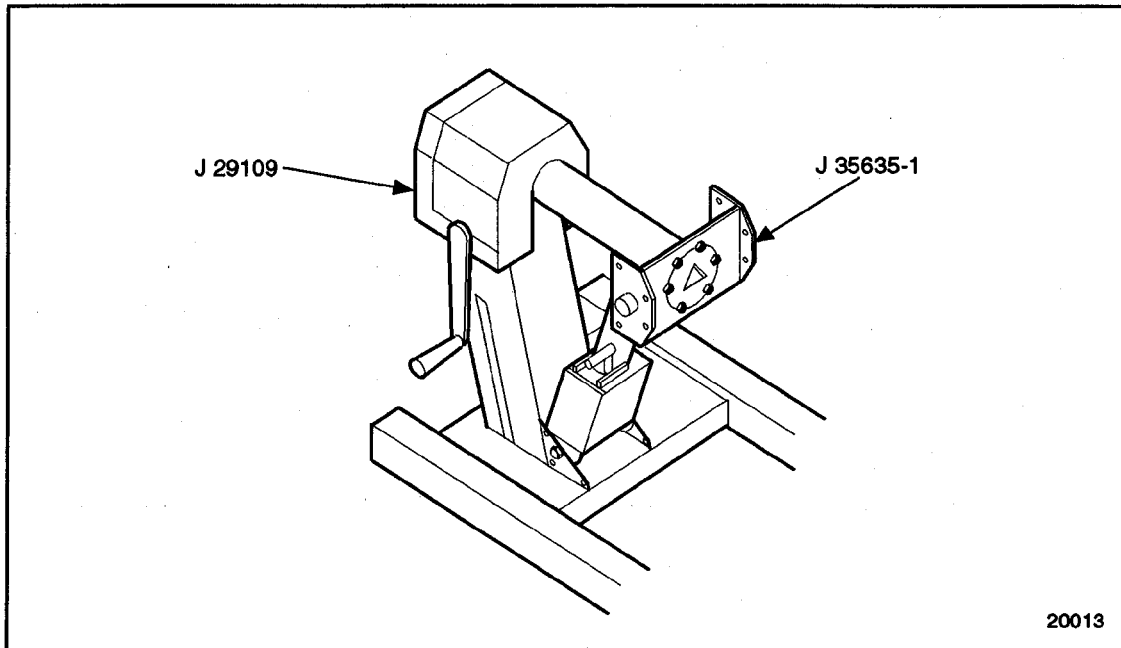

Figure 1-6 Engine Overhaul Stand and Adaptor
19. Use engine overhaul stand, J 29109, with stand adaptor plate, J 35635-1 part of J 35635-A for support when stripping a Series 60 engine cylinder block. See Figure 1-6.
9. Remount the cylinder block to the engine overhaul stand, J 29109. See Figure 1-6.